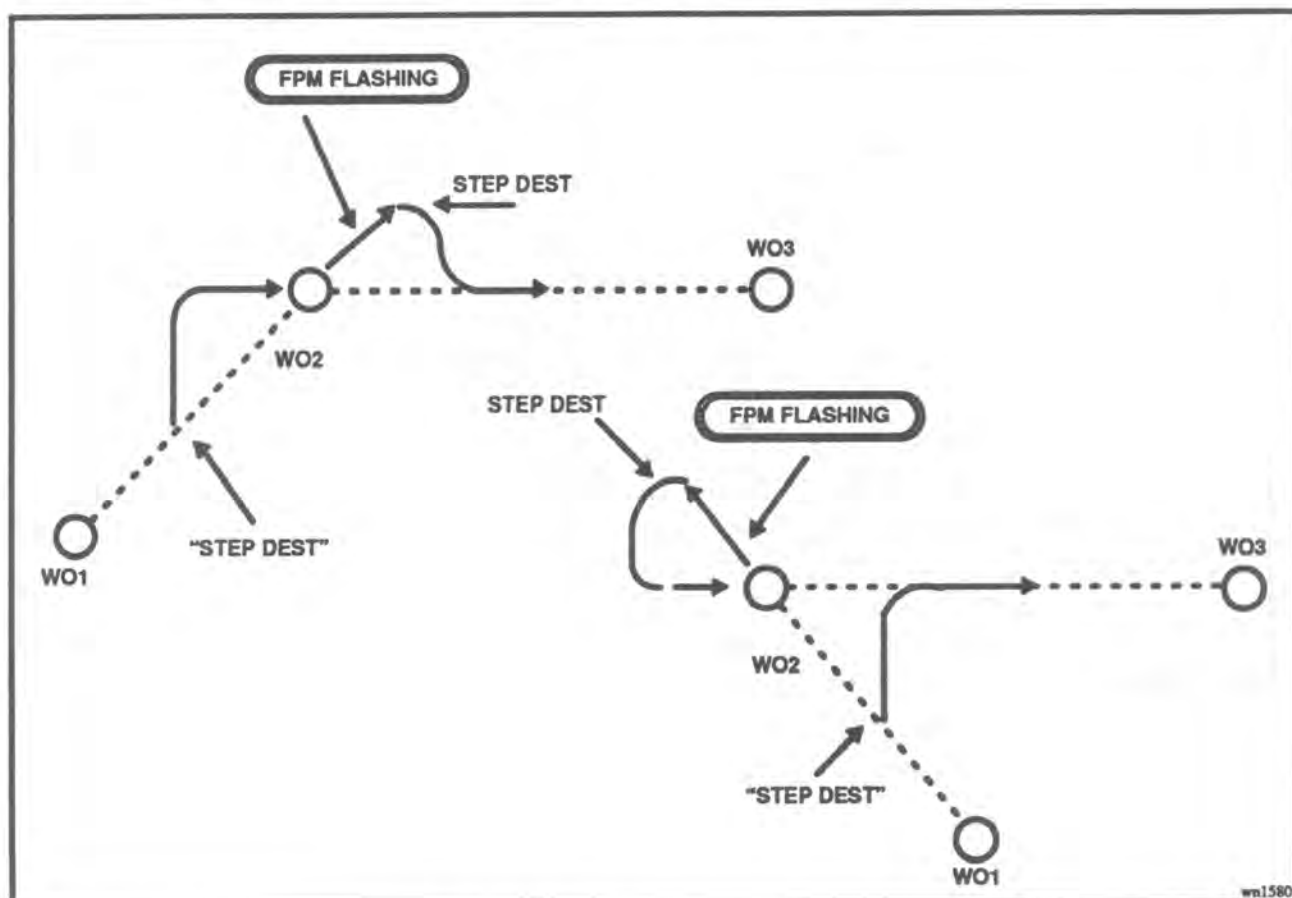
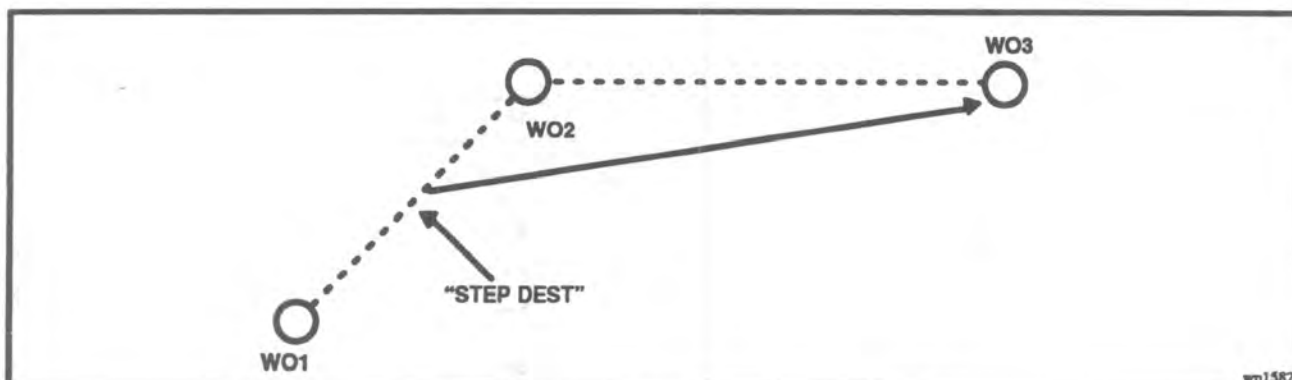

Figure 7-36 NAS Steering Examples – Planned Course
Figure 7-38 NAS Steering Example – Direct Course
7.281 All navigation displays are shown in the HUD (symbols and data windows) and are repeated on the ADI and HSI. Limited information is also provided on the DU STATUS page. A steering command is computed by the NAS to fly the aircraft onto the selected course. If the aircraft is off course, the deviation will be represented on the HSI presentations and the TAE carat and ADI vertical pointer will shown heading corrections to regain the appropriate track. All TAE steering commands provided by the NAS are based on a turn radius using an angle of bank of 27.5 degrees at the current TAS. The NAS will always attempt to provide a 90 degree intercept via the shortest route to the required track. When following the steering commands, the 90 degree intercept will only be reached if the aircraft is outside a distance of twice the turn radius from the track. Inside twice the turn radius, the commands will steer towards the 90 degree intercept only until a reversal (at 27.5 degrees angle of bank) will roll the aircraft out on track. With the NAS providing a 90 degree intercept, the TAE steering may provide an intercept past the steer-to-destination. Several examples of NAS-computed routes to a newly selected course are shown in Figure 7-36 to Figure 7-38.